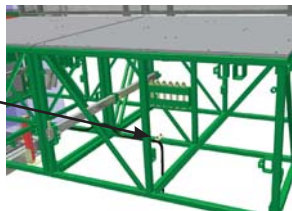

Fig. 4.3
- 5- Retrieve the cable support kit from the toolbox (fig. 4.2). Using the U bolt and flat bar assembly, attach the wire mesh grip (Kellems grip) to a bridge truss (horizontal or vertical) (fig. 4.3). Run the cable through the wire mesh grip.